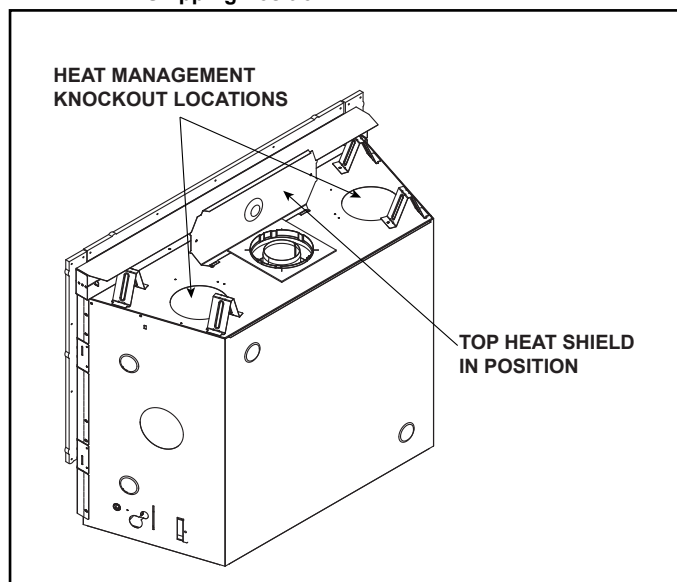

Figure 6.2 COSMO42-IFT-B B / COSMO36-IFT-B - Top Heat Shield in Position
2. Fold up top heat shield to 90 degrees as shown in Figure 6.2.
- Locate the two heat management ports on the top of the appliance. Either one or two Heat-Zone® -Gas Kits may be installed. See Figure 6.2. Remove the knockouts from the appliance with a tin snips.